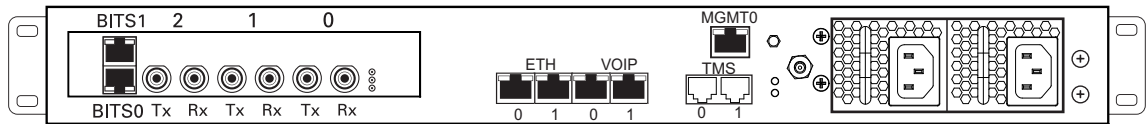

Figure 2.5
A 3200-DS3 with 3 sets of BNC connectors enables the connection to DS3 lines. See Figure 2.5 on page 20.
1. Start with the Dual BNC port pair #0 (right-most) as shown in Figure 2.5 on page 20. Connect one pair of BNC cables between this port and the DS3 line.